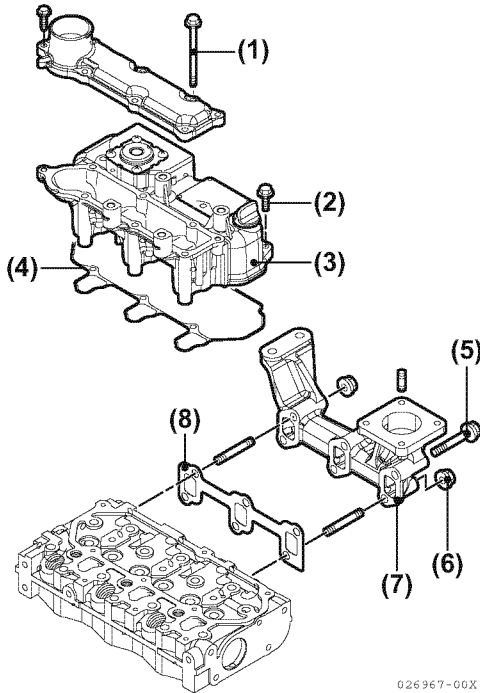

Figure 6-2
1. Remove the intake manifold bolts (**Figure 6-2, (1)**) and valve cover bolts (**Figure 6-2, (2)**).
2. Remove the valve cover / intake manifold (**Figure 6-2, (3)**). Discard gasket (**Figure 6-2, (4)**).
3. Remove the exhaust manifold bolts (**Figure 6-2, (5)**) and nuts (**Figure 6-2, (6)**). Remove the exhaust manifold (**Figure 6-2, (7)**) and the exhaust manifold gasket (**Figure 6-2, (8)**).